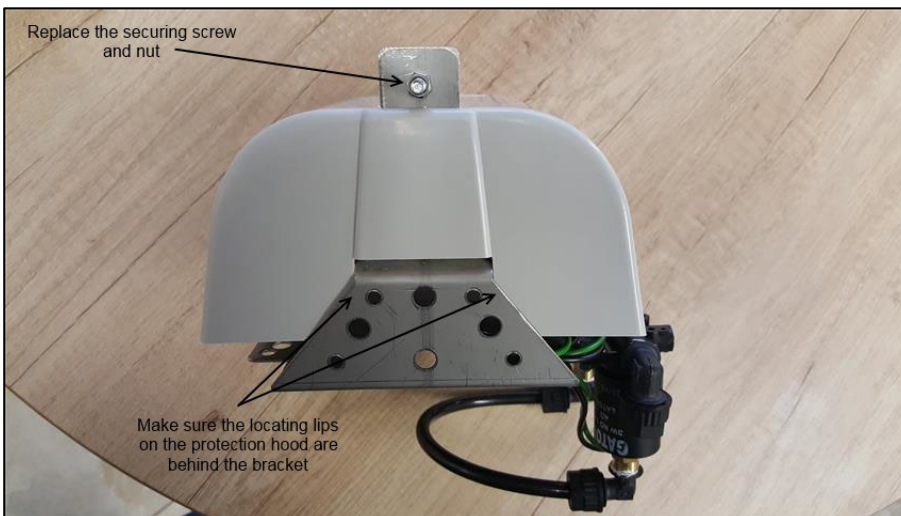

Figure 18: Hood in Place
- Push the hood down making sure that the locating lips are behind the stainless steel bracket as shown in Figure 18 below. Do not force the hood down and make sure a gap is retained between the receiver module and the hood.